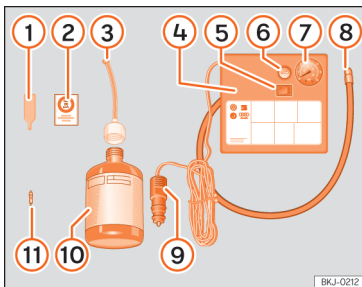

Fig. 231 Standard display: contents of the anti-puncture kit.
The anti-puncture kit is located underneath the floor covering in the luggage compartment. Includes the following components »» **Fig. 231**:
- Unscrew the tyre valve cap and insert. Use the device »» **Fig. 231** ① to remove the valve cap. Place it on a clean surface.
- Shake the tyre sealant bottle vigorously »» **Fig. 231** ⑩.
- Screw the tyre inflation hose »» **Fig. 231** ③ into the tyre sealant bottle. The bottle's seal will break automatically.
- Remove the filler cap »» **Fig. 231** ③ and screw the open end of the tube into the tyre valve.
- Replace the howitzer with the device »» **Fig. 231** ① onto the tyre valve.
- Screw the tyre inflation tube of the compressor »» **Fig. 231** ⑧ on the tyre valve.
- Check that the air evacuation screw is closed »» **Fig. 231** ⑥.
- Attach the connector »» **Fig. 231** ⑨ to the vehicle's 12 volt power outlet »» **page 213**.
- Switch on the air compressor with ON/OFF switch »» **Fig. 231** ⑤.
- Attach the sticker >>> Fig. 231 ② to the instrument panel display, within the driver's field of vision.
Screw in the inflator tube >>> Fig. 231 ⑧ again and check the pressure on the gauge ⑦.